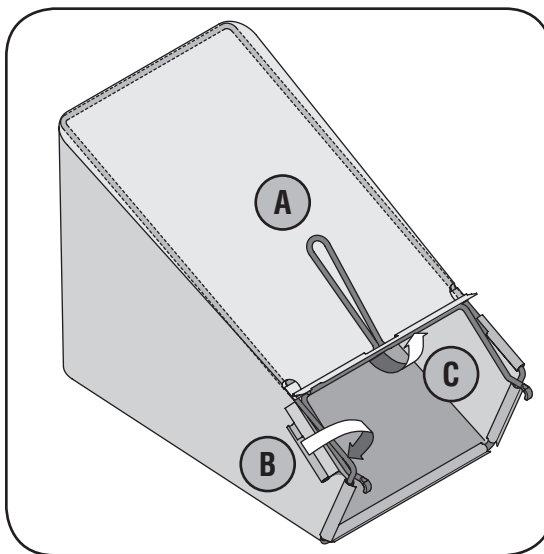

Figure 3-5: Assemble the grass catcher.
- b. Slip plastic channel of grass bag over hooks on the frame, Figure 3-5. All the plastic channels except center top of bag attach from outside of bag.